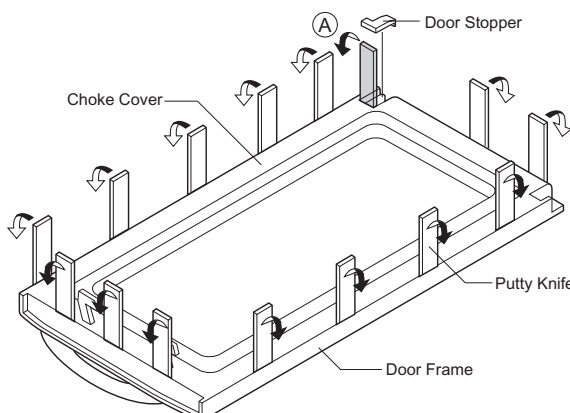

Figure C-3. Door Disassembly
5. Insert a putty knife (thickness of about 0.5mm) into the gap A between the door stopper and the choke cover as shown in Figure C-3 to free engaging parts.
7. Insert a putty knife (thickness of about 0.5mm) into the gap A between the choke cover and door stopper and between the choke cover and the door frame as shown Figure C-3 to free engaging parts.
8. Pry the choke cover by inserting a putty knife in order shown in Figure C-3.